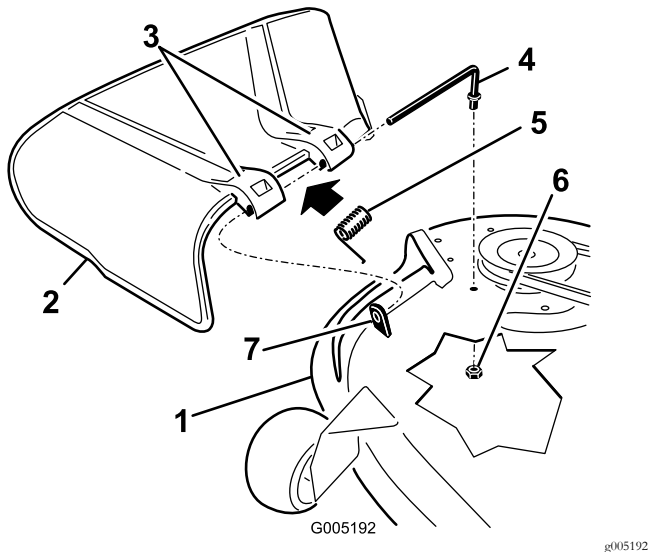

Figure 59
1. Remove the nut (3/8 inch) from the rod under the mower (Figure 59).
2. Slide the rod out of the short standoff, spring, and the grass deflector (Figure 59).
4. Replace the grass deflector (Figure 59).
7. Slide rod through the second grass-deflector bracket (Figure 59).
9. Secure the rear end of the rod into the mower with a nut (3/8 inch) as shown in Figure 59.